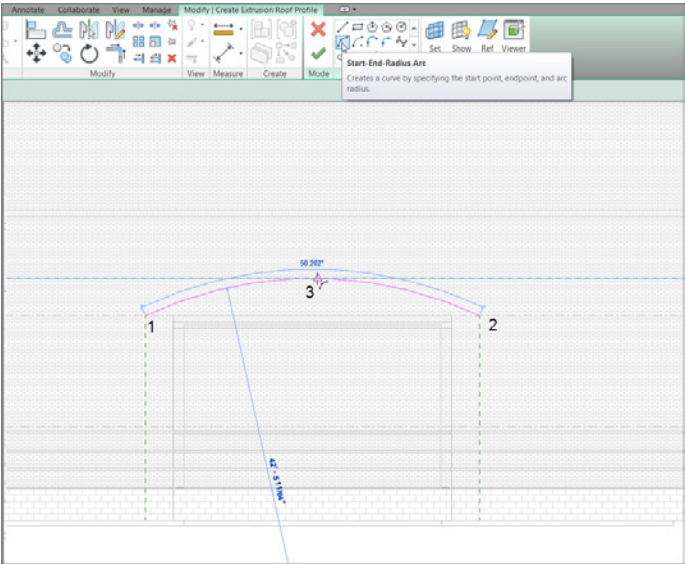

FIGURE 7.53: Drawing an arc, which will define the outside face of the roof
1. On the Draw panel of the Modify | Create Extrusion Roof Profile tab, click the Start-End-Radius Arc button, as shown in Figure 7.53.
2. Draw an arc from the points shown in Figure 7.53.